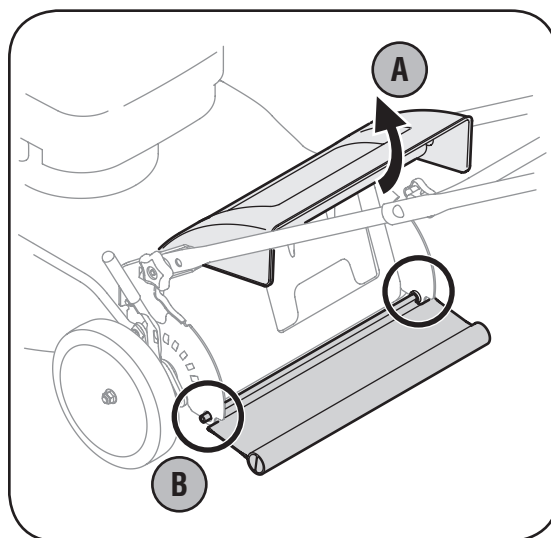

Figure 5-2: Remove rear flap.
1. To remove rear flap, lift rear door, and press flap in on either side to remove from hole. See Figure 5-2.